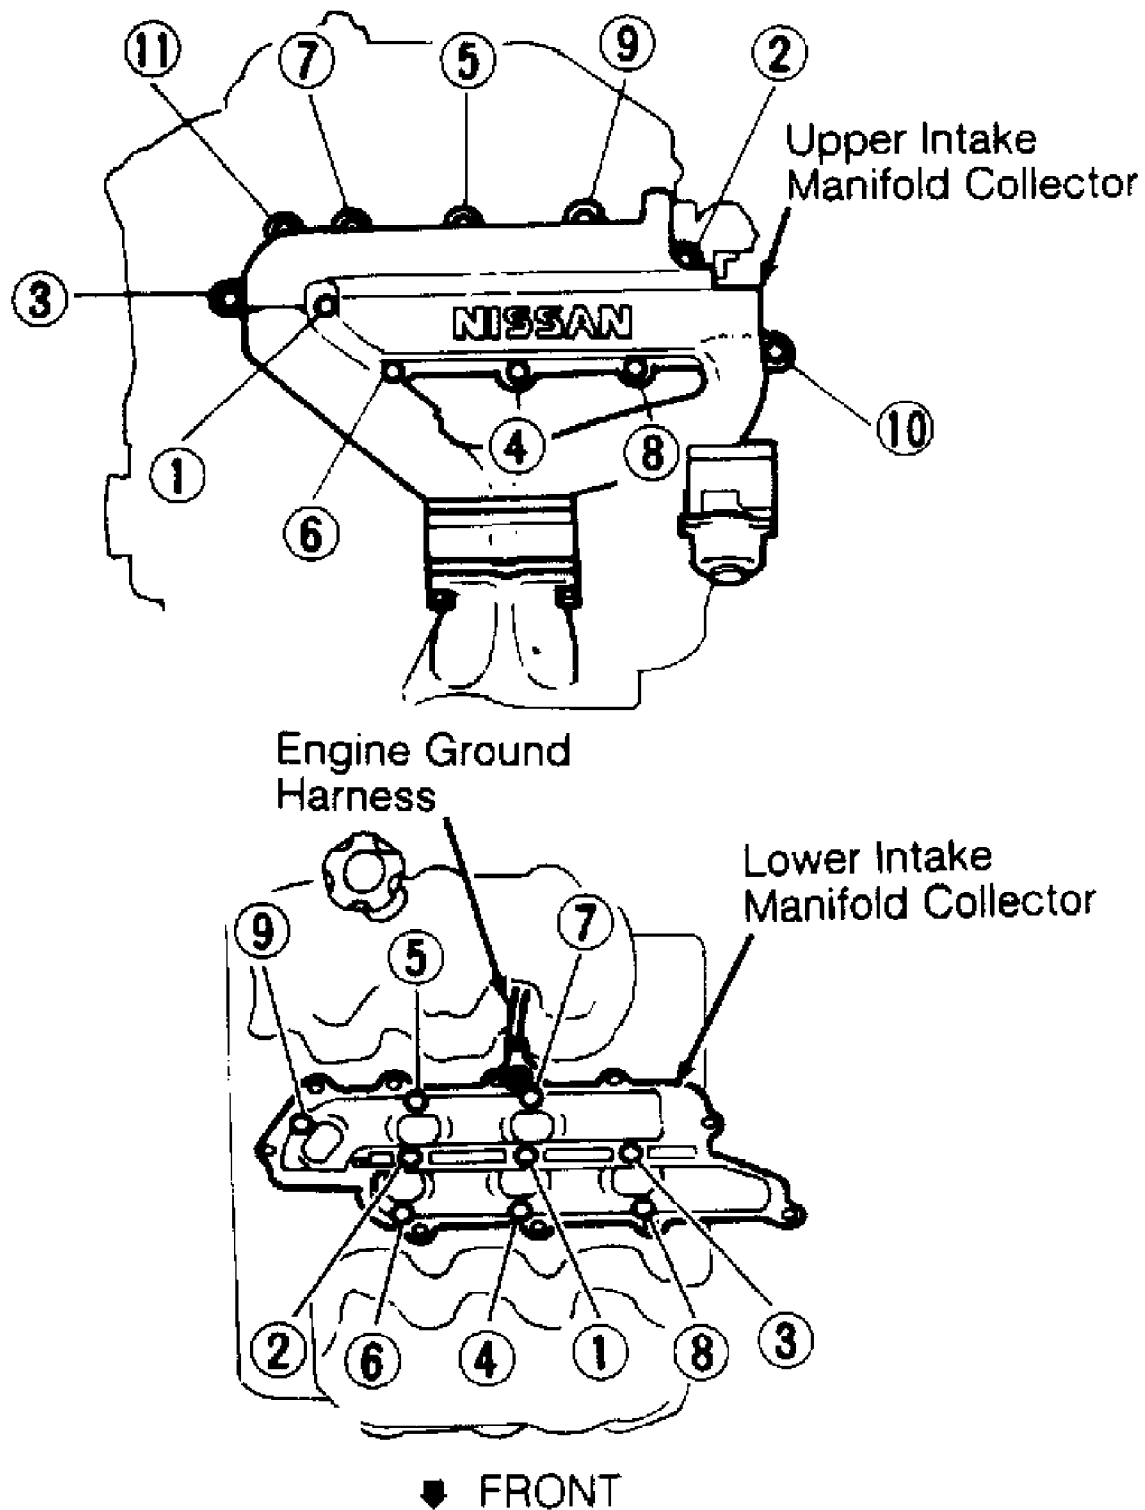

Fig. 2: Upper & Lower Intake Manifold Collector Tightening Sequence (Maxima)
- 1) Install new "O" rings on injectors and install injectors. Tighten injector holders to 22-29 INCH lbs. (2.5-3.3 N.m). Install fuel rail. Install lower and upper intake manifold collectors and tighten bolts in sequence to 13-16 ft. lbs. (18-22 N.m). See Fig. 2.